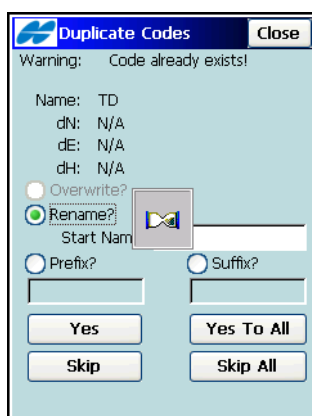

Figure 5-25. Duplicate <Objects>
10. When names of these exported objects coincide with existing ones in the job, the **Duplicate Objects** screen issues a warning that prevents the loss of points, roads, or point lists (Figure 5-25 on page 5-18).